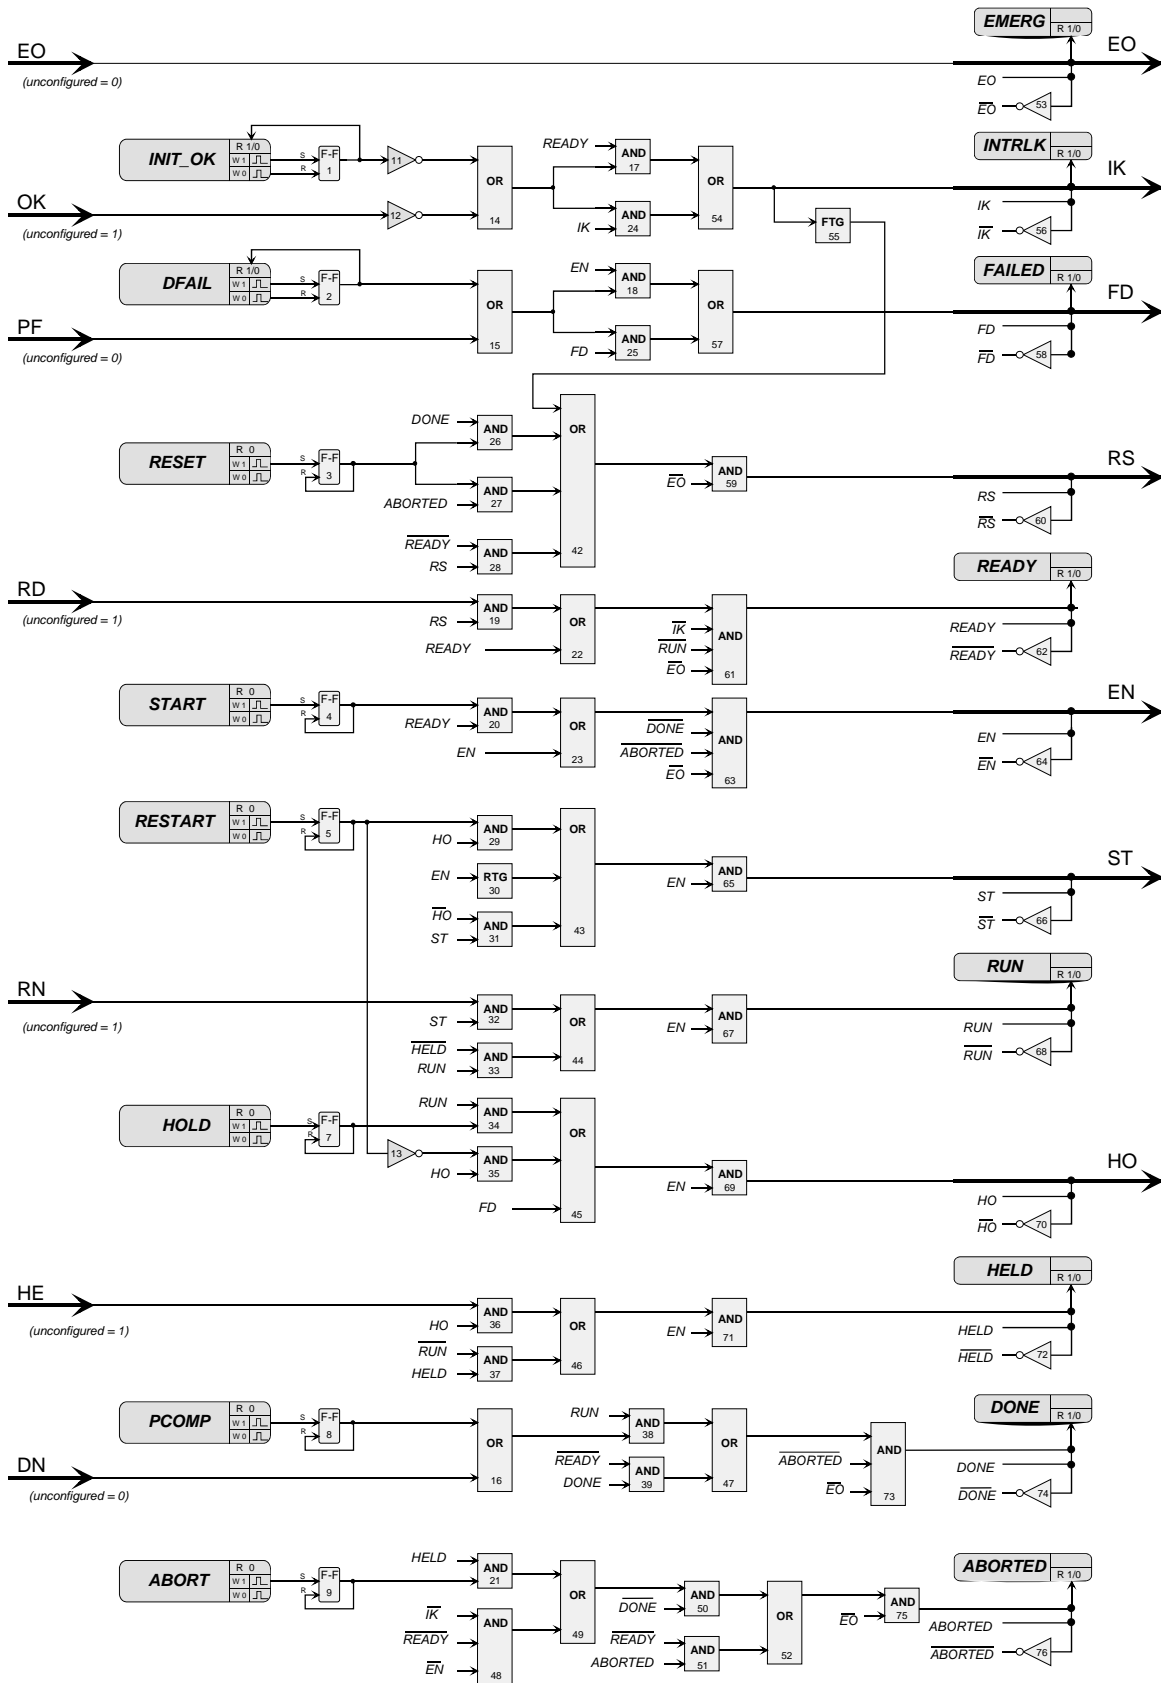

Figure 3-1 PCOM Logic
The logic performed by the **PCOM** block is detailed in Boolean form in Figure 3-1. Network communication can be either Modbus or Modbus/TCP. Details are listed in Section 5 Network Communications. The LOOP # configured in the ODC or ODS function block for the loop determines the location of the status coils in the Modbus mapping. Communication states are represented in Figure 3-1, on the next page, using the symbols shown below. Modbus states are mapped in coils as defined in Section 6.3.9 PCOM Block Status.
Each communication state is read as a 1 or 0. Using Modbus, a write of a 1 (W1) or a 0 (W0) will affect the communication state as defined by the associated logic in Figure 3-1. All unconfigured inputs will be treated as low (0) except OK, RD, RN and HE which will be treated as high (1). Three of the output states, EO (“EMERG”), IK (“INTRLK”), and FD (“FAILED”) can be configured for priorities 0-5. This will affect the flashing, etc. as previously described for other controller status conditions. These states also have unacknowledged bits as detailed in status word 2. Conditions that require acknowledging can be acknowledged by either using the local faceplate ACK button or by writing to the individual not acknowledged bit or the Not Ack’d PCOM bit.